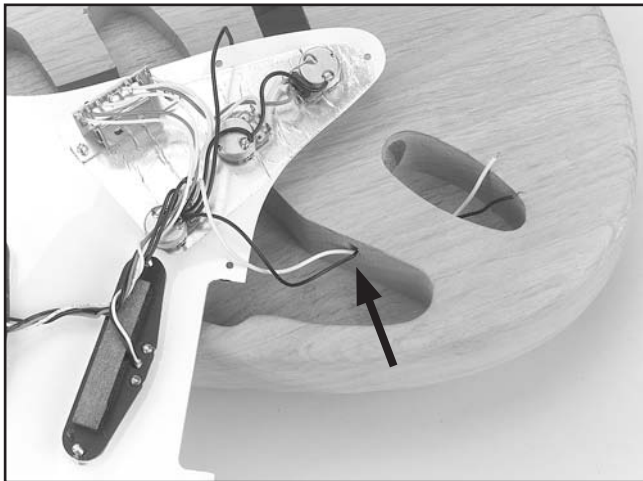

Figure 16. Pick guard wires.
1. Push one white and one black wire through the hole shown in **Figure 16**.